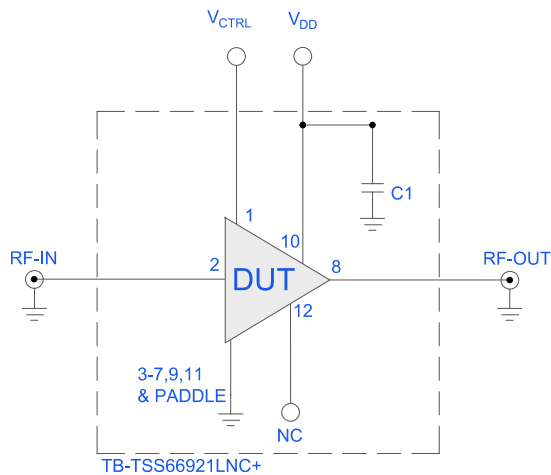

Figure 2. TSS-66921LN+ Characterization and Application Circuit.
1. Tested on Mini-Circuits Characterization Test Board TB-TSS66921LNC+. See Figure 2. Board loss de-embedded to the device.